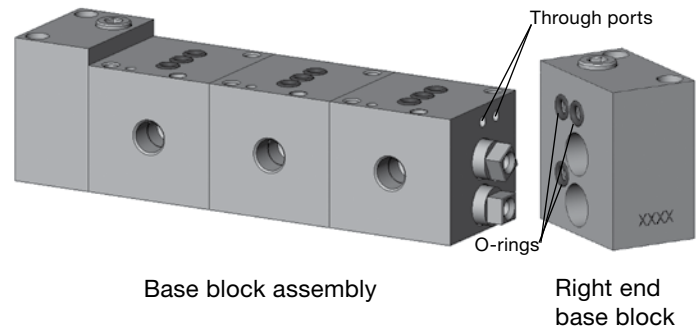

Fig. 3
5. Assemble a **right end base block** to the assembly, aligning the right end base block **O-rings** (9-007) with the through ports on the last base block. Tighten the right end base block insert screws to the base block inserts to 35 to 45 in.-lb (4.0 to 5.1 N·m) using a 9/64 in. hex torque wrench placed through the end base block. See Fig. 3.